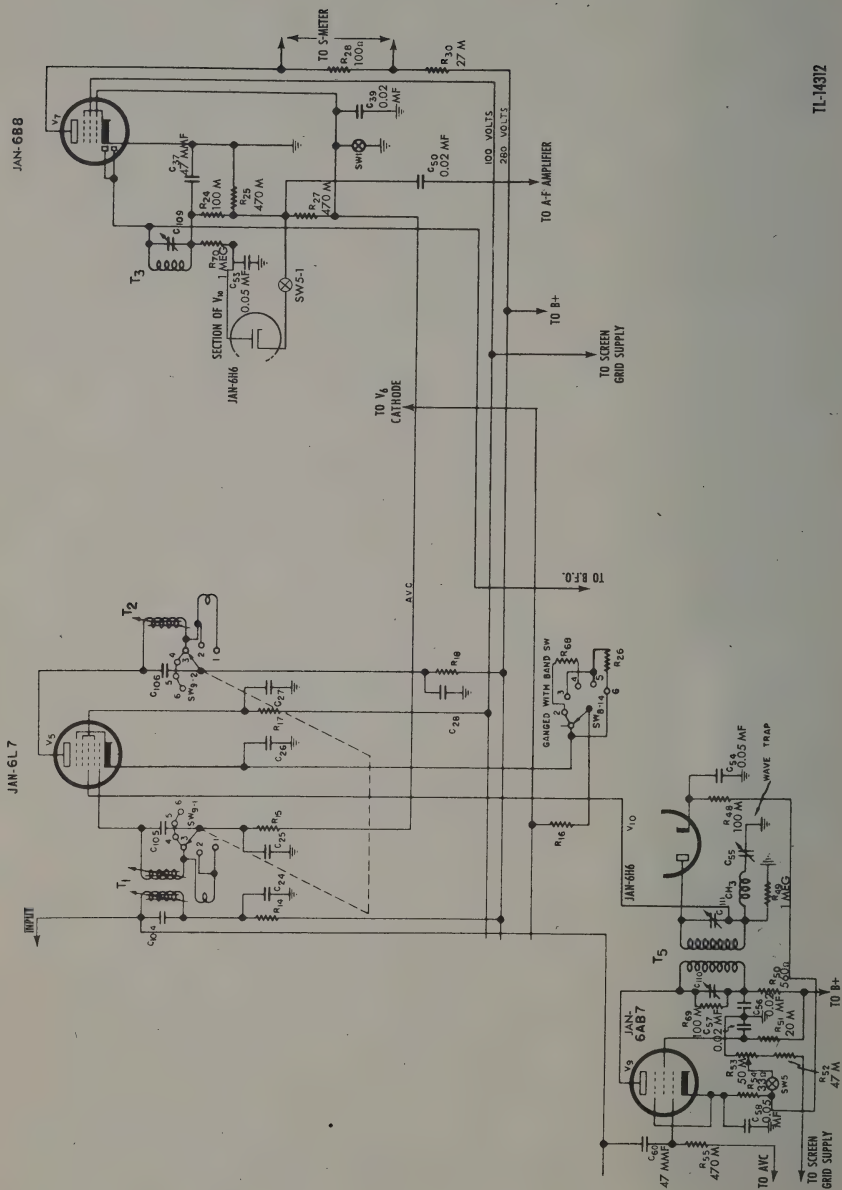
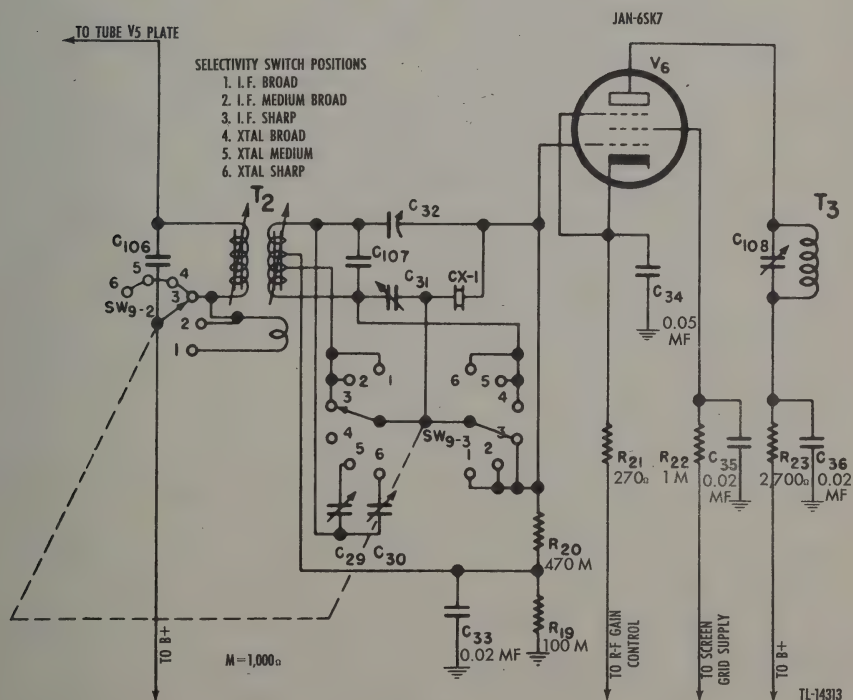

Figure 12. First i-f amplifier, detector, and A.N.L., schematic.
Figure 13. Crystal filter and second i-f amplifier, schematic.
15. I-F AMPLIFIER (figs. 12 and 13).
b. Fixed capacitors C104 and C105 plus the permeability tuned coils resonate the primary and secondary of T1 to the intermediate frequency. The bandwidth of transformers T1 and T2 is broadened by inclusion in the circuit of additional inductance controlled by switches SW9-1, and SW9-2 (fig. 12) which works in conjunction with SW9-3 (fig. 13).
- (1) BROAD I.F. (for high-fidelity reception).
- (2) MED. I.F. (more selectivity, less highs).
- (3) SHARP I.F. (reduces interference, far less highs).
e. In positions 1, 2, and 3 of switch SW9-3 (fig. 13) the crystal
f. In position 6, or XTAL SHARP, the trimmer C30 (fig. 13) has been adjusted for the sharpest crystal action. Under this condition, the secondary is slightly detuned from the resonant crystal frequency sufficiently so that its resonance curve is not greatly affected by the crystal but still coupled tightly enough so that it can transfer energy to the crystal circuit. As this point was reached, it was indicated by a rise in the output. Two such points of increased output will normally occur—one for each adjustment of the secondary on either side of the resonant frequency of the crystal.
16. DETECTOR (fig. 12).
17. NOISE LIMITER (fig. 12).
a. Two noise-limiting circuits are used in the receiver. One circuit provides for the shunting of the detector diode load with a capacitor to momentarily bypass audio signals, the other places a negative potential on the number 3 grid of the first i-f amplifier tube. When a signal is applied to the detector, a charge appears on capacitor C53 proportional to the flow of rectified carrier current through the detector diode load resistors R24 and R25. Thus a negative potential appears on the plate of the limiter diode, upper section of Tube JAN-6H6 (V10) (fig. 12). Upon application of a sharp noise signal, an instantaneous negative voltage appears on the cathode of the limiter diode before capacitor C53 can charge through the 1-megohm resistor R70. Thus the diode conducts and effectively places capacitor C53 across the portion of the load resistor from which the a-f voltage is taken, bypassing the higher audio frequencies.